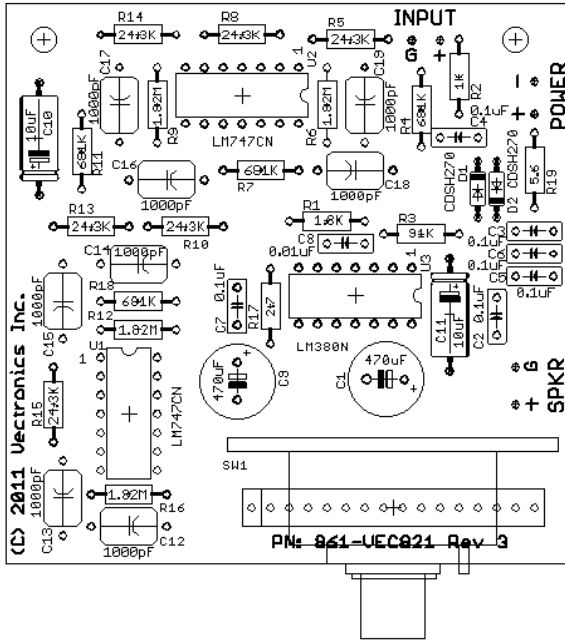

Figure 1
- 1. Locate capacitor C10 (10uF). This is an electrolytic type capacitor and will be marked "10uF" (actual value in uF). Carefully install C10, be sure to orient the negative end of the capacitor properly. Please refer to the section titled, "Parts Placement", Figure 1 for correct orientation of C10. Once installed, then solder in place and trim the excess leads.
- 2. Locate capacitor C11 (10uF). This is an electrolytic type capacitor and will be marked "10uF" (actual value in uF). Carefully install C11, be sure to orient the negative end of the capacitor properly. Please refer to the section titled, "Parts Placement", Figure 1 for correct orientation of C11. Once installed, then solder in place and trim the excess leads.
- 3. Locate (1) 14 pin IC socket.
Placement" section Figure 1.
- □ 7. Install the IC socket at the U2 location on the circuit board. Be careful to orient the socket correctly according to the "Parts Placement" section Figure 1.
- □ 10. Install the IC socket at the U3 location on the circuit board. Be careful to orient the socket correctly according to the "Parts Placement" section Figure 1.
- □ 12. Locate capacitor C1 (470uF). This is an electrolytic type capacitor and will be marked "470uF" (actual value in uF). Carefully install C1, be sure to orient the negative side of the capacitor properly. Please refer to the section titled, "Parts Placement", Figure 1 for correct orientation of C1. Once installed, then solder in place and trim the excess leads.
- □ 13. Locate capacitor C9 (470uF). This is an electrolytic type capacitor and will be marked "470uF" (actual value in uF). Carefully install C9, be sure to orient the negative end of the capacitor properly. Please refer to the section titled, "Parts Placement", Figure 1 for correct orientation of C9. Once installed, then solder in place and trim the excess leads.